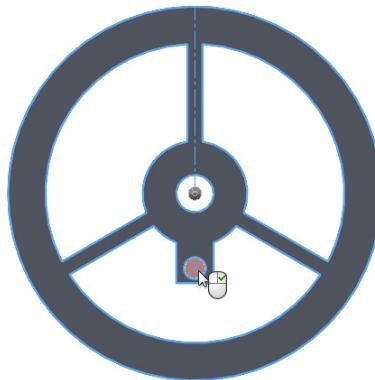

Figure 2-44 The area selected to be extruded
15. Expand the **Selected Contours** rollout in the PropertyManager. Zoom the wheel feature and select the area of the **Wheel** to be extruded, as shown in Figure 2-44.